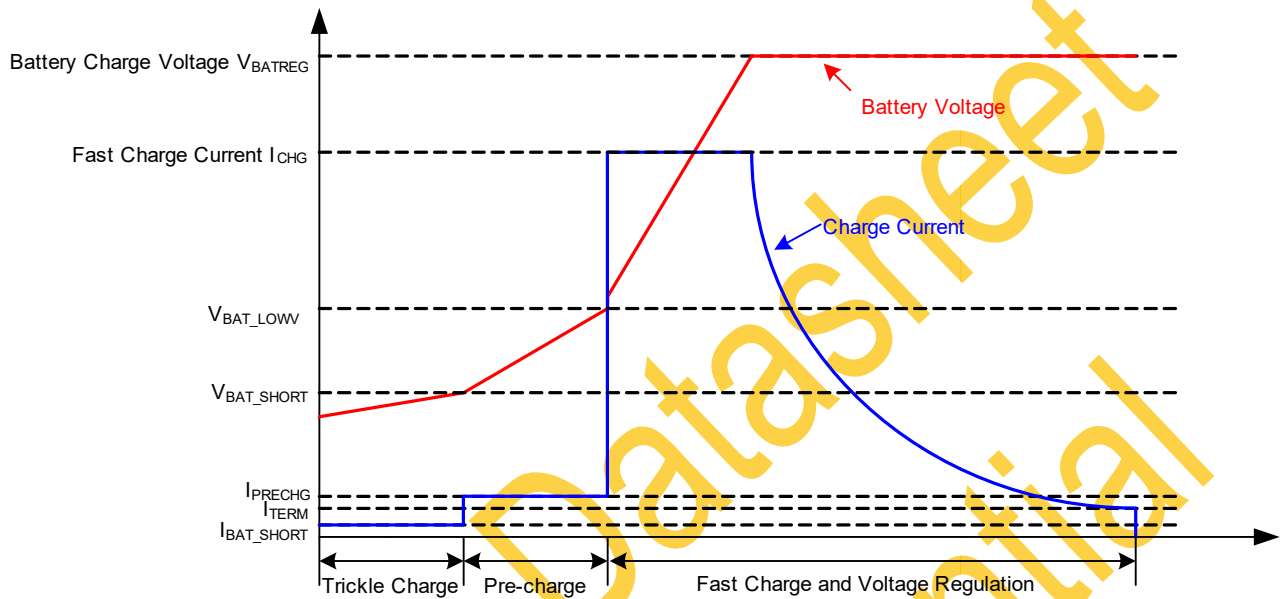

Figure 9. Battery Charge Profile
In Charge Mode as shown in the table of Device Functional Mode, the devices charge the battery in four sub-charge-modes: trickle charge, pre-charge, Constant Current (CC) charge and Constant Voltage (CV) charge as shown in Figure 9. If the battery voltage falls below  $V_{BAT\_SHORT\_FALL}$ , the battery charge battery with trickle charge current  $I_{BAT\_SHORT}$ , when the battery voltage rises above  $V_{BAT\_SHORT\_RISE}$  and below  $V_{BAT\_LOWV\_RISE}$ , the charger charges battery in precharge mode with charge current at  $I_{PRECHG}$ . Fast charge starts once battery voltage rises above  $V_{BAT\_LOWV\_RISE}$ . When battery voltage is close to battery charge voltage  $V_{BATREG}$ , the charger goes into CV mode and charge current starts to decrease. When charge current decreases below termination current  $I_{TERM}$ , charge is terminated and charge cycle ends. Following charge termination, if the battery voltage follows below  $(V_{BATREG} - V_{RECHG\_HYS})$ , a new charge cycle restarts.